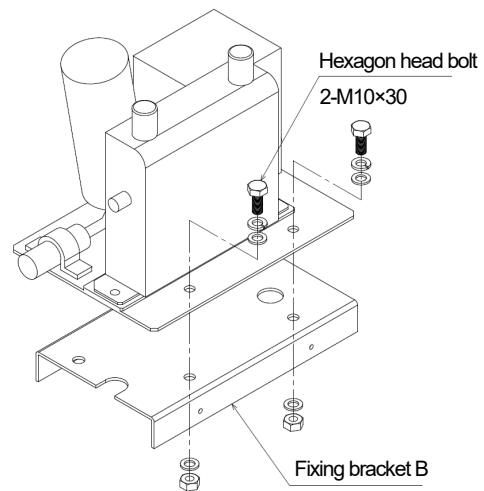

Figure 1.5 Mounting of wire feeder (Procedure 2)
2. Referring to Figure 1.5, mount the wire feeder to the fixing bracket B. Mount it using the hexagon head bolts and washers and nuts.